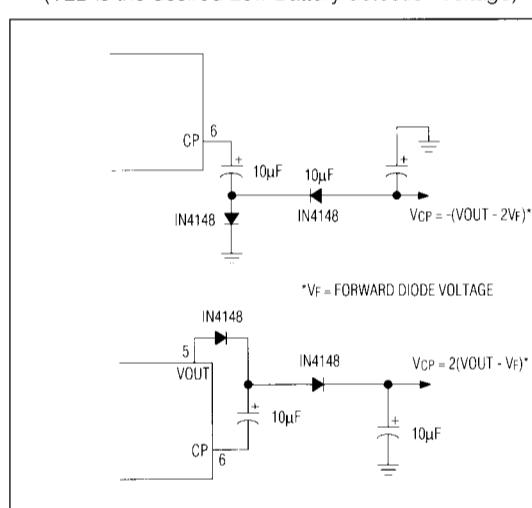

Figure 3. Using the Charge Pump (CP) output as a voltage inverter and/or doubler. Both circuits can be used together.
The Charge Pump (CP) output is a low impedance buffer which swings from ground to VOUT at the oscillator frequency. Two external capacitors and diodes can be connected, as shown in Figure 3, to generate a negative output voltage of $-(V_{OUT} - 1.2V)$ or a positive output of $2(V_{OUT} - 1.2V)$. 1.2V is the forward drop of 2 silicon diodes. Both circuits can be used at once if desired. With $10\mu\text{F}$ capacitors, the output impedance of V_{CP} is about 30Ω . If space is critical, the capacitors can be reduced, but with a slight increase in output impedance and V_{CP} output ripple.